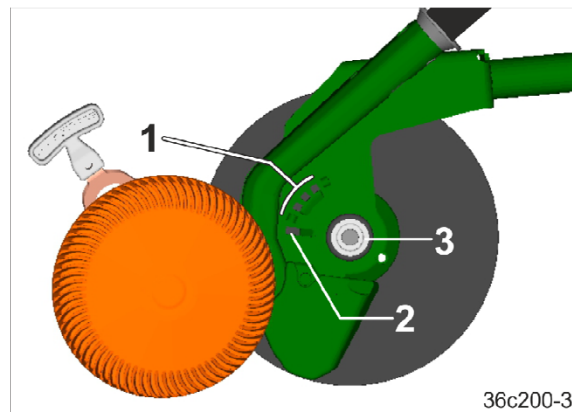

Fig. 132
1. Engage the lever beyond the catch (Fig. 132/1) in the elongated slot (Fig. 132/2).
2. Push the coulter disc in the elongated slot (Fig. 132/2) until the coulter disc is released from the locking mechanism (Fig. 132/3).